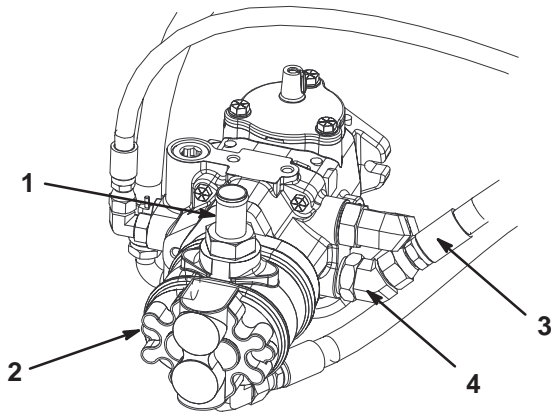

Figure 3
2. Drain all hydraulic oil from reservoir by removing the upper hose from pump (Fig. 3). Re-connect hose after installing hydraulic hard line.
3. Remove and discard hose secured to 45° fitting on lower pump port and to tee fitting under seat base (Fig. 3 & 4).